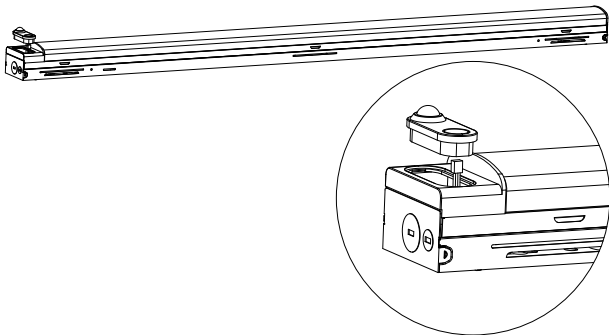

Figure 3
Step 2: Remove the flat cable from the back of the plate and insert the connector into the terminal of the approved sensor. (Figure 3)